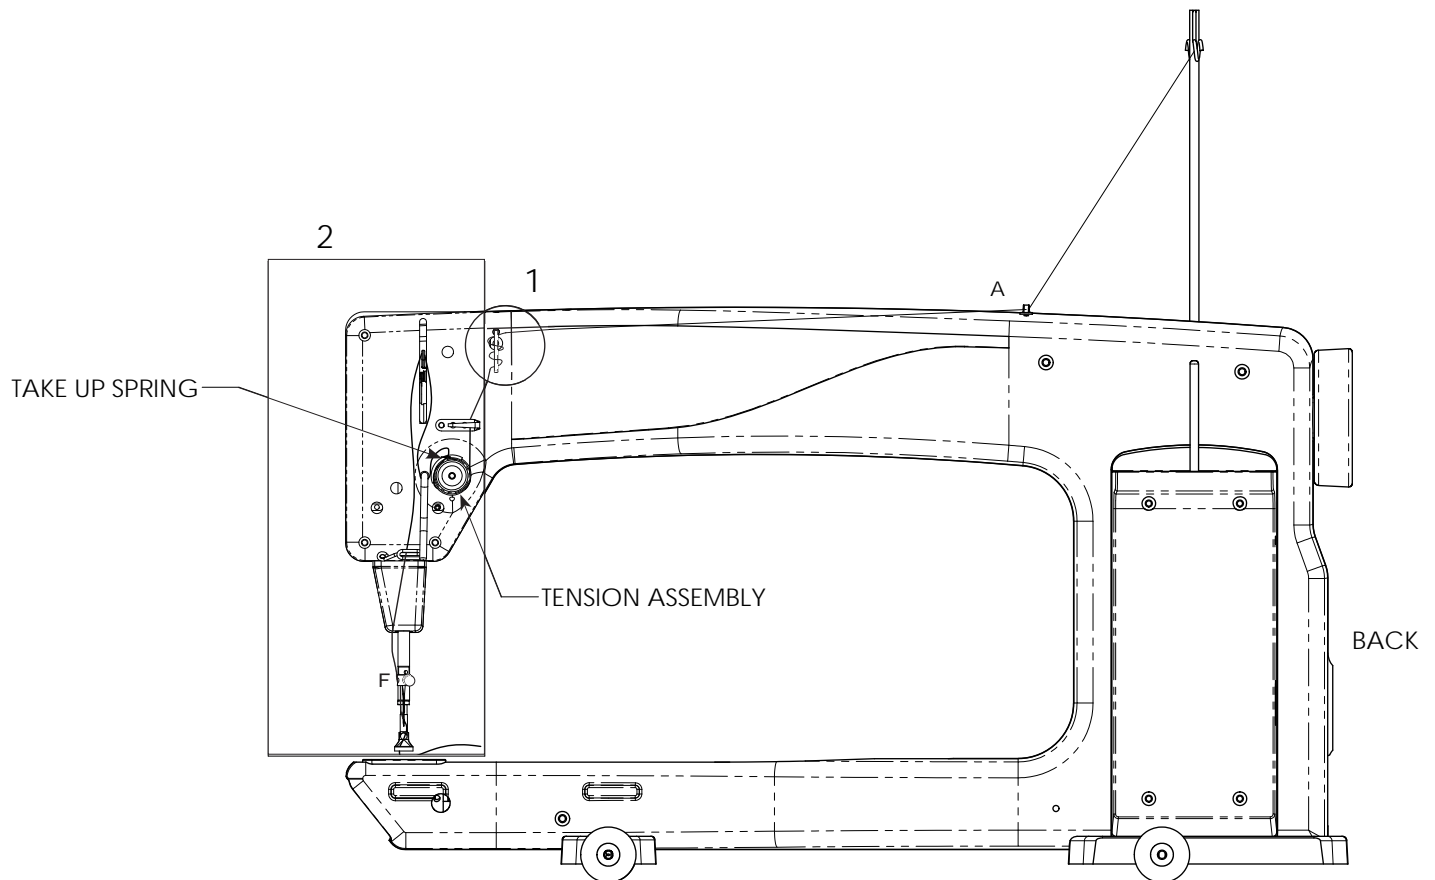

Figure 11
1. Place a cone or spool of thread on the spool pin. Pass the thread through the thread-mast eyelet from back to front, continuing to thread guide A. (Figure 11)